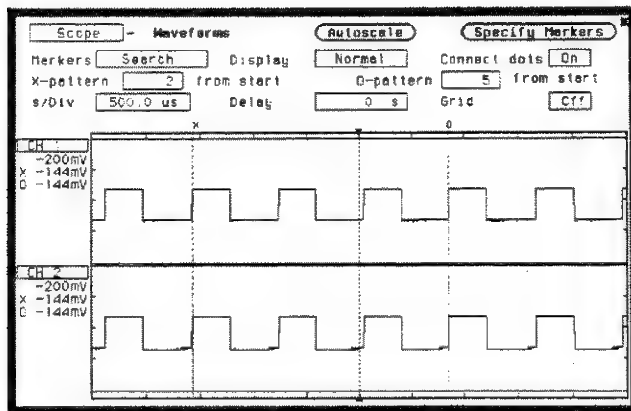

Figure 25-21. Search Markers Menu
1. In the Waveforms menu, select **Markers** field. When the pop-up appears, select the **Search** field. With Markers set to Search, two new fields will appear: **X-pattern** from start, and **O-pattern** from start. Set the X-pattern to 2, and the O-pattern to 5. Set the s/Div to 500  $\mu$ s. See figure 25-21.